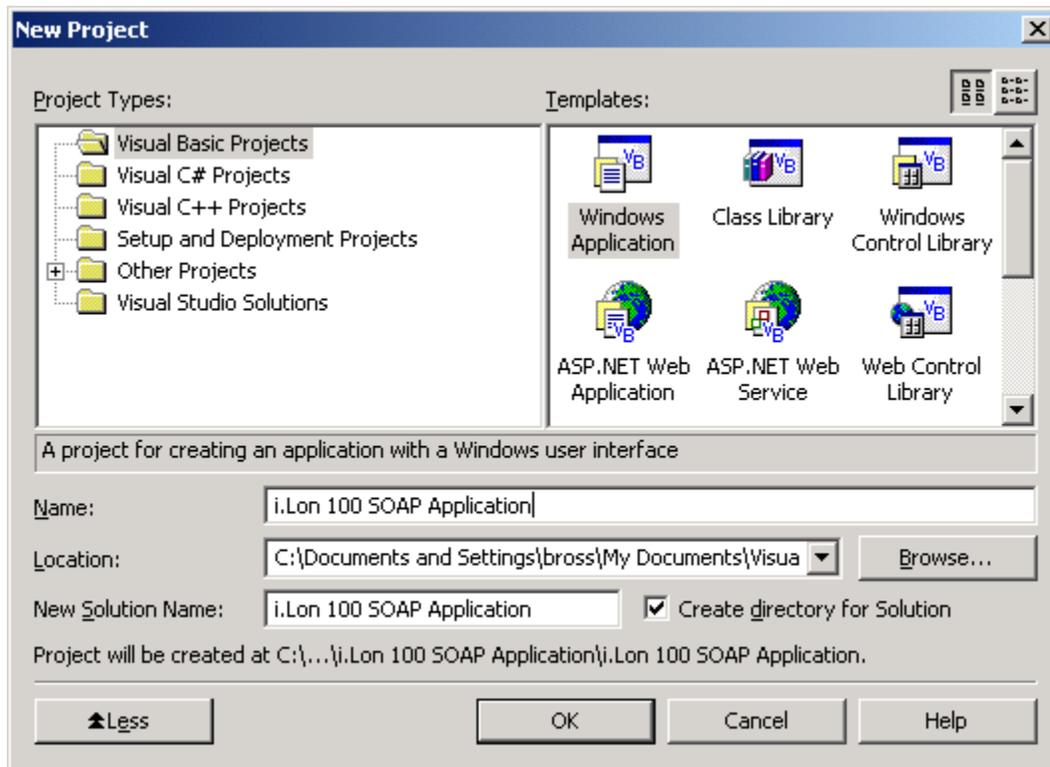

Figure 13.1 Create Windows Application
2. From the **File** menu, select **New > Project**. The dialog shown in Figure 13.1 opens.